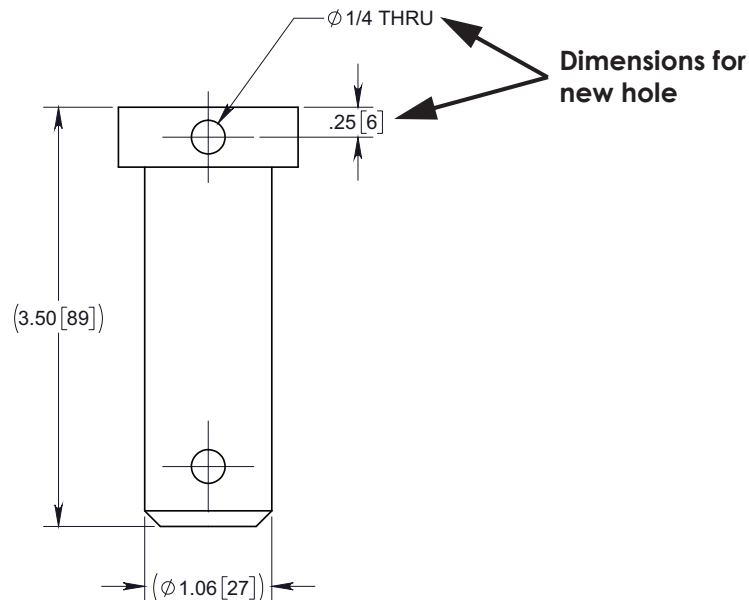

Figure 2: Drilling Hole on Existing Pins
- Drill a 1/4 in. diameter hole in the head of the pin as shown in Figure 2.